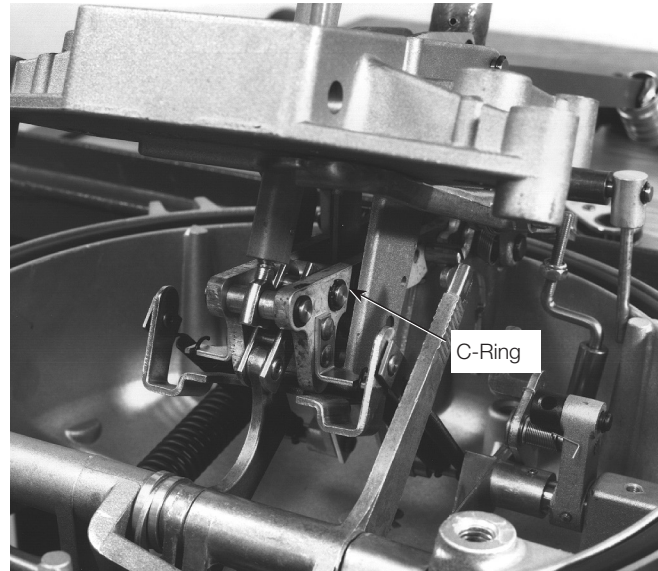

Figure 13. Removal of operating mechanism
3. Lift operating mechanism assembly enough to expose pivot point, see Figure 13. Remove C-ring and pin to free operating mechanism.
5. Place operating mechanism into position, install pin and secure with C-ring, see Figure 13.